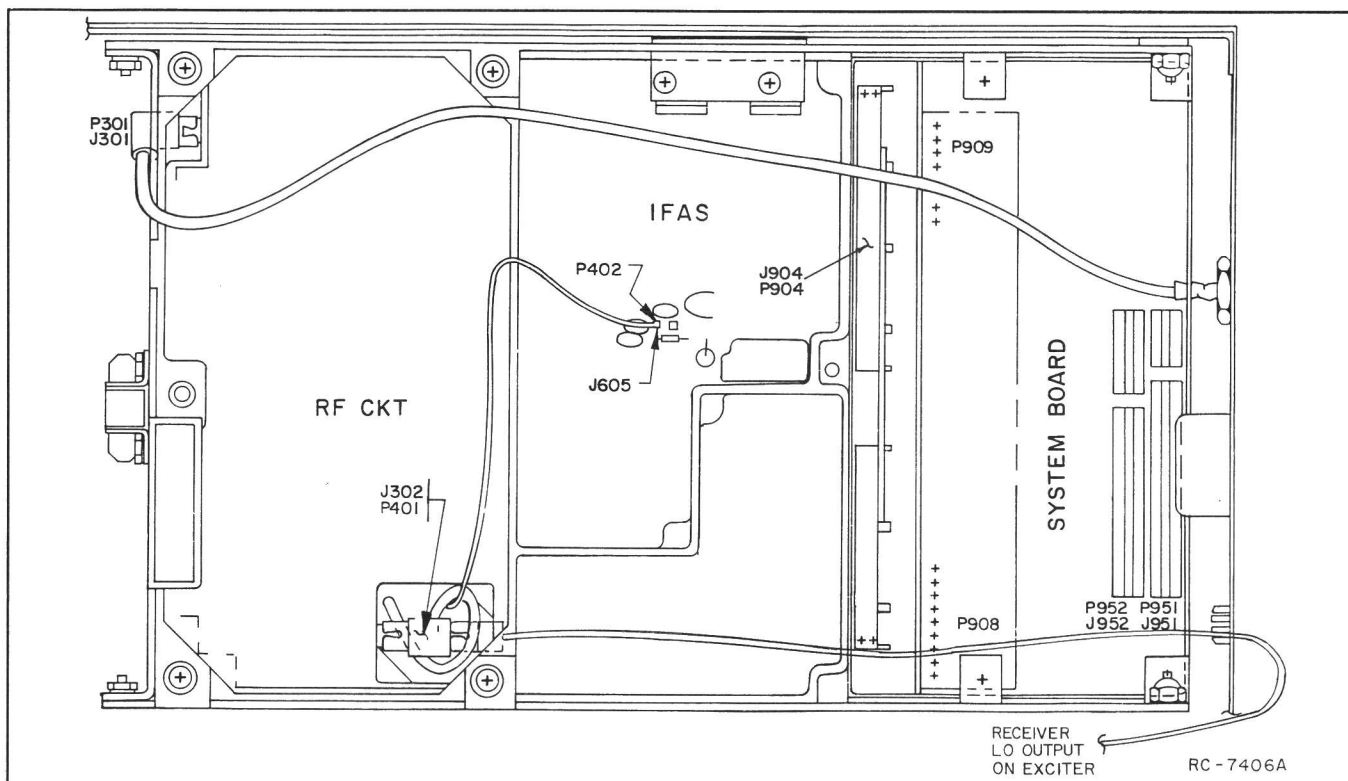

Figure 4 - Receiver Module Location
6. Refer to Figure 4 for the location of Receiver Modules.